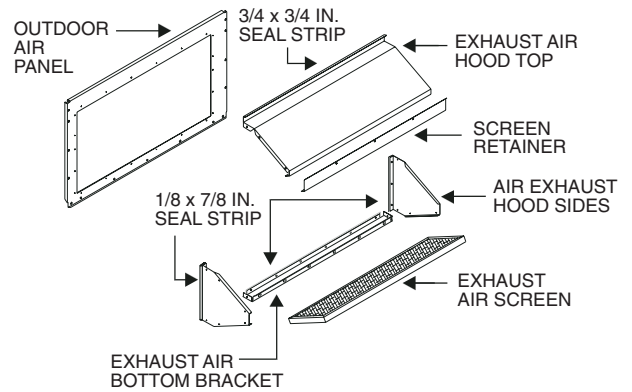

Fig. 20 — Exhaust Air Hood Assembly (Horizontal EconoMi\$er)
2. Install the ¾ x ¾ in. (horizontal) or ½ x ¾ in. (vertical) seal strip on the Exhaust Air (EA) hood top panel. Install the ⅛ x ⅞ in. (horizontal) or ⅛ x ¾ in. (vertical) seal strip on the EA hood side panels and bottom brackets. Assemble the EA hood to the OA panel as shown in Fig. 20, using the screws provided. Do not attach hood assembly to unit at this time.